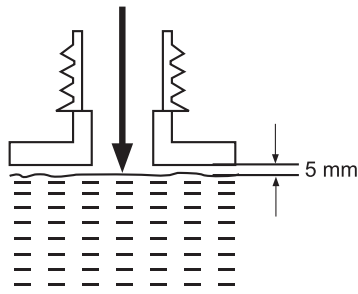

Fig. 12
- > Set the product on any suitable surface with the tank cap (15) facing upwards.
- > Unscrew and remove the tank cap (15), then add the lubricant into the tank. Use a proper funnel with a filter to prevent debris entering the tank and to avoid spilling and overfilling the tank. Do not overfill and leave approximately 5 mm of space to the lower edge to allow the lubricant to expand (Fig. 12).